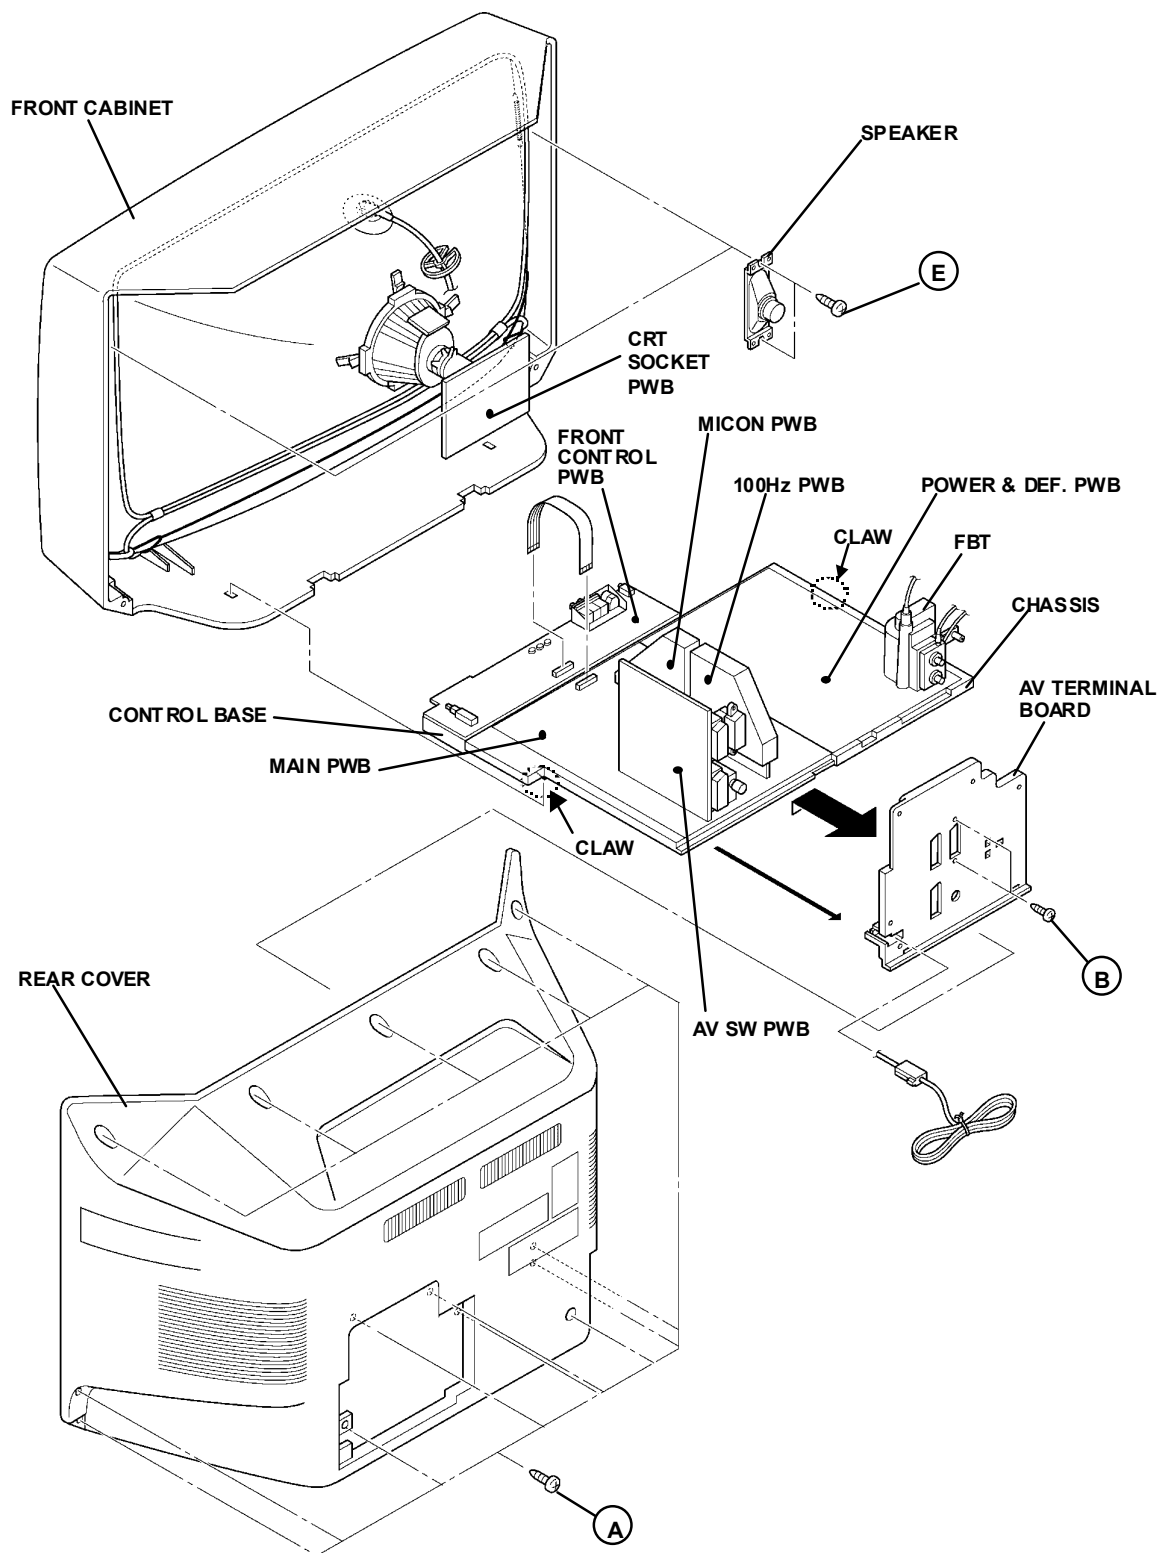

Fig. 1
2. Remove the 14 screws marked (A) as shown in the Fig. 1.
1. Remove the 2 screws marked (B) as shown in the Fig. 1.
1. Remove the 2 screws marked (E) as shown in Fig. 1.